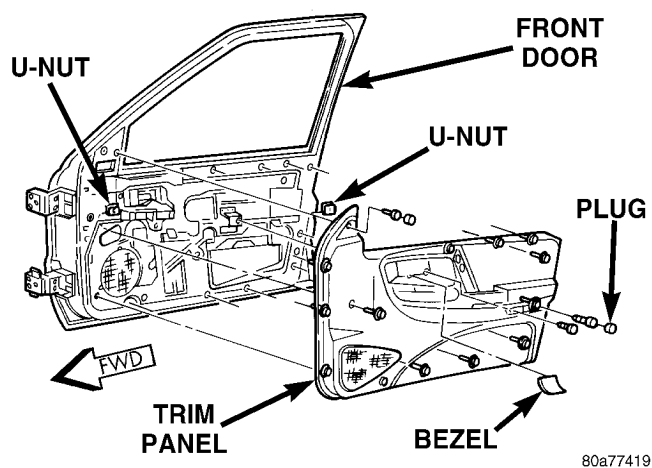

Fig. 2 Front Door Trim Panel Remove/Install
- (1) Disconnect and isolate the battery negative cable.
- (2) Remove the bezel near the inside door latch release handle by inserting a straight-bladed screwdriver in the notched end of the bezel and prying gently upwards.
- (3) Remove the screw located beneath the bezel that secures the front door trim panel to the inner door panel (Fig. 2).